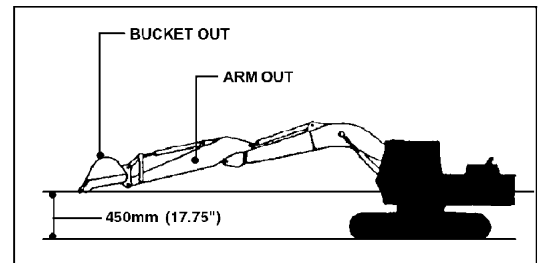

FIGURE 4.14
7. Operate boom up and arm out controls until arm is completely out. See Figure 4.14.
8. Operate bucket control until bucket is completely out and operate boom until bucket teeth are 450 mm (17.75") from the ground. See Figure 4.14.